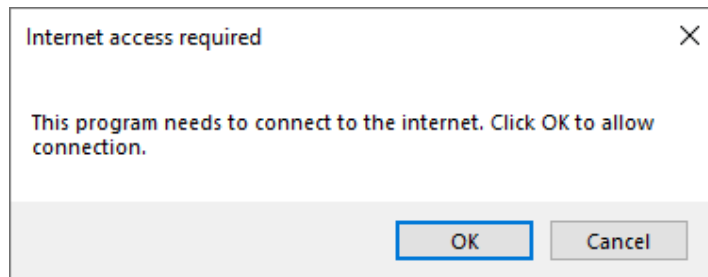

Figure 9 Internet Access Window
- The internet access window will be displayed (Figure 9), click OK.